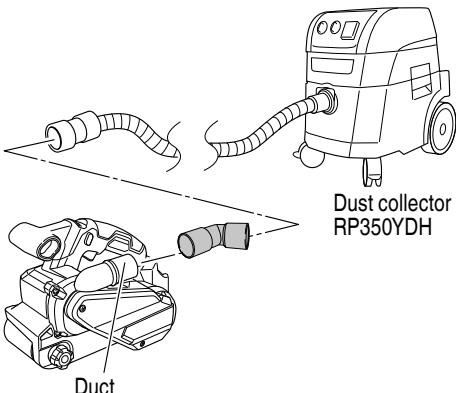

Fig. 17
- For details on how to use the dust collector and the type of dust that can be collected, read the dust collector instruction manual carefully. Attaching the elbow to the duct on the tool enables the metabo HPT power tool dust collector to be connected. (Fig. 17)